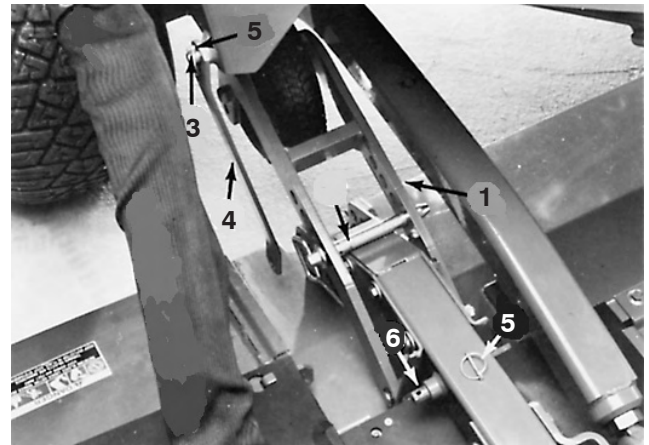

Figure 64
5. Fit deck tilt link over weldment on the right side of traction unit and secure with klik pin. Position link so it clears when cutting unit is raised. Keep remaining klik pin handy to secure opposite end of link to cutting unit arm weldment (Fig. 64).